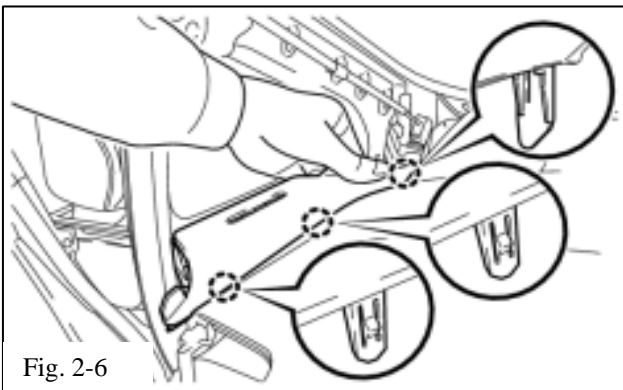

Fig. 2-6
(f) Disengage the three (3) claws and front pillar garnish corner piece as shown in illustration. (Fig. 2-6)